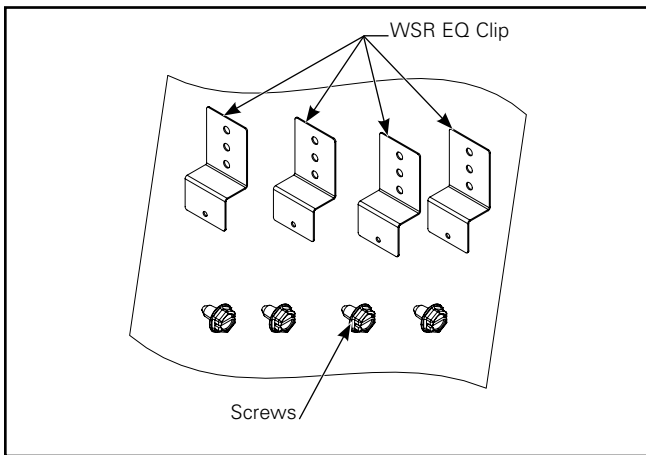

Figure 2.
3. Assemble WSR EQ clip with screws provided in poly bag (Figure 2).